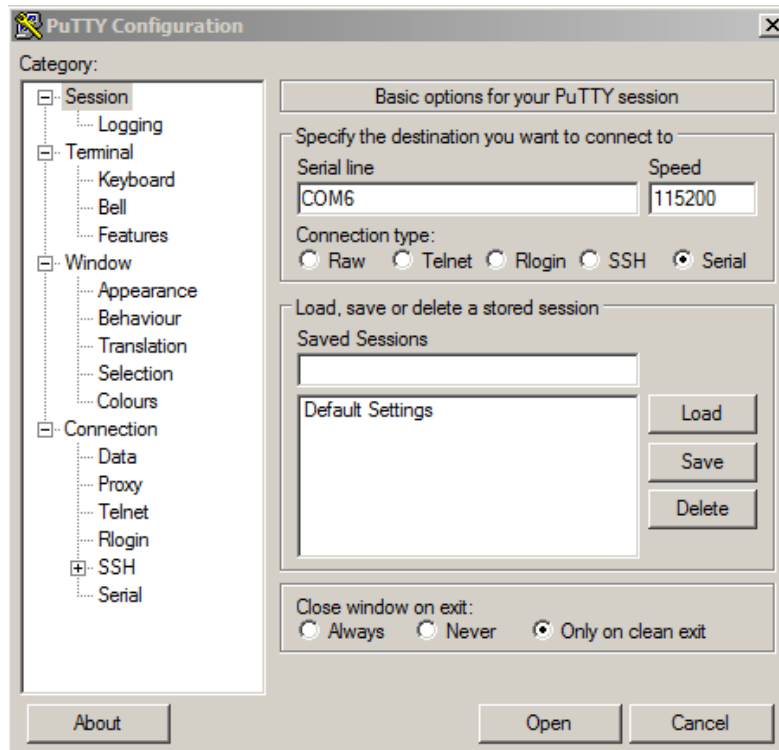

Figure 75 PuTTY configuration
8. Set the **Speed** field to `115200` as shown in Figure 75.